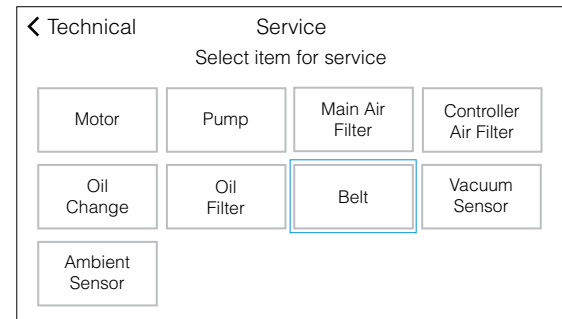

FIGURE 72. PRESS BELT
10. On the Service screen, press **BELT** (FIGURE 72).